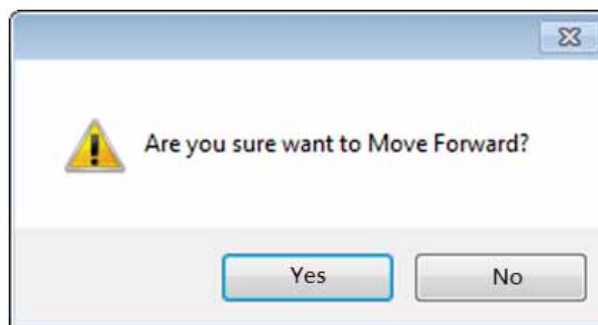

Fig. 6-30. Message window
4. Launch approaching the probe by clicking  **Move** button. A message window (Fig. 6-30) will appear. To continue the approaching process, click the **Yes** button in this window. The sample will move up until the distance defined in the **Approach Settings** window is reached. Watch the approaching process on the image provided by the videomicroscope.